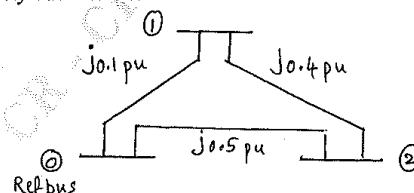

Fig.Q10(a)
- 10 a. Obtain Z_{bus} by Z_{build} technique for the system shown in Fig.Q10(a). All values are in pu (impedance). Take bus '0' as reference bus. Add the elements in the order ref bus to bus 1, ref bus to bus 2 and lastly bus 1 to bus 2.